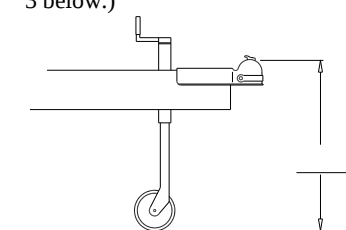

Fig. 1
2. Level the trailer and measure and record the distance from the ground to the top of the coupler. (Fig.1).
5. Slide hitch bar ③ into sleeve receiver; insert pull pin ⑩ and spring clip ⑧. With ball, purchased separately, attached to ball mount ①, slide ball mount up or down hitch bar (hitch bar may be used in the up or down position) until desired ball height is obtained and holes line up with hitch bar. Insert bolt ⑪ in bottom hole first of the hitch head.
6. Rivet ⑤ and 7 spacer washers ⑦ are supplied in order to gain correct downward angle of spring bars. Insert rivet ⑤, and depending on angle or slope of bars that must be gained, use either 7 or the least amount of washers ⑦ necessary in order to establish correct angle. (See Fig. 1, 2, and 3 below.)